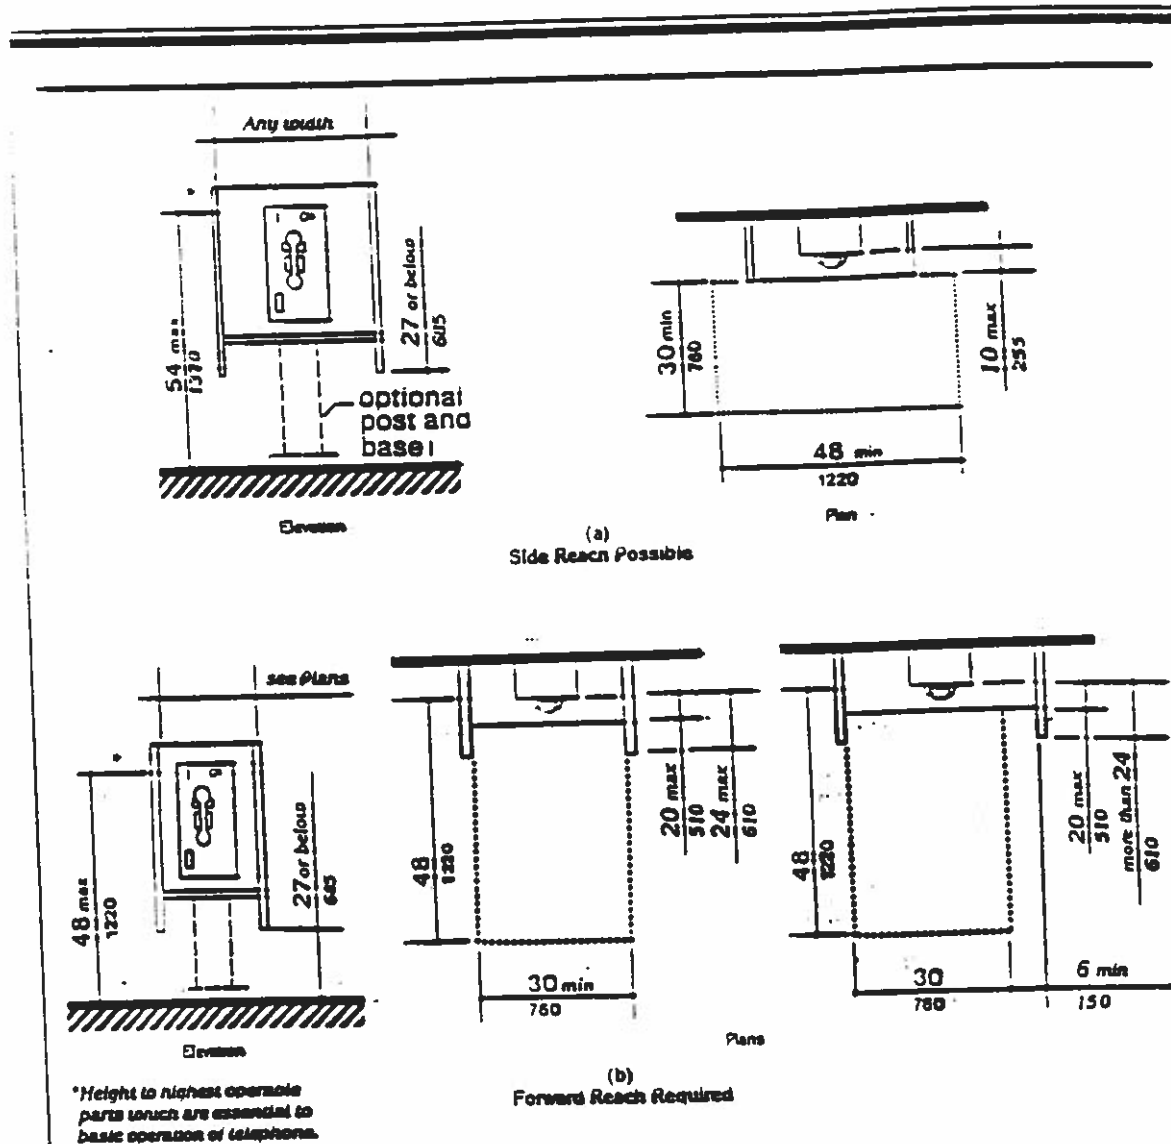

Fig. 44
4.31.2 **Clear Floor or Ground Space.** A clear floor or ground space at least 30 in by 48 in (760 mm by 1220 mm) that allows either a forward or parallel approach by a person using a wheelchair shall be provided at telephones (see Fig. 44). The clear floor or ground space shall comply with 4.2.4. Basins, enclosures, and fixed seats shall not impede approaches to telephones by people who use wheelchairs.